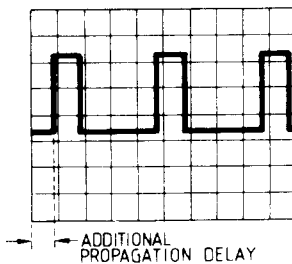

Figure 5-8
3. Adjust A23 R57 for minimum distance between first and second pulse without additional propagation delay (figure 5-8).